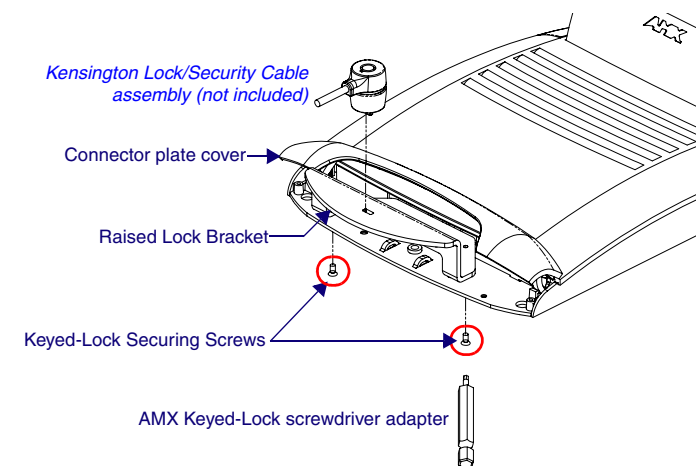

FIG. 3 Raised Kensington Lock Bracket Components and Installation
- Insert two Keyed-Lock Securing Screws into their respective locations (FIG. 3).